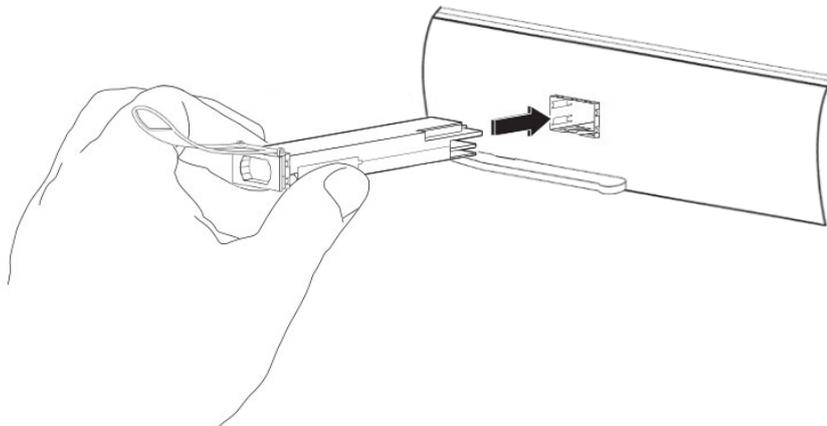

Figure 16: Installing a QSFP+ Module into a port
4. Align the QSFP+ transceiver in front of the module's transceiver socket opening and carefully slide the QSFP+ transceiver into the socket until the transceiver makes contact with the socket electrical connector of the *Komodo Fiber board*, as shown in Figure 16.